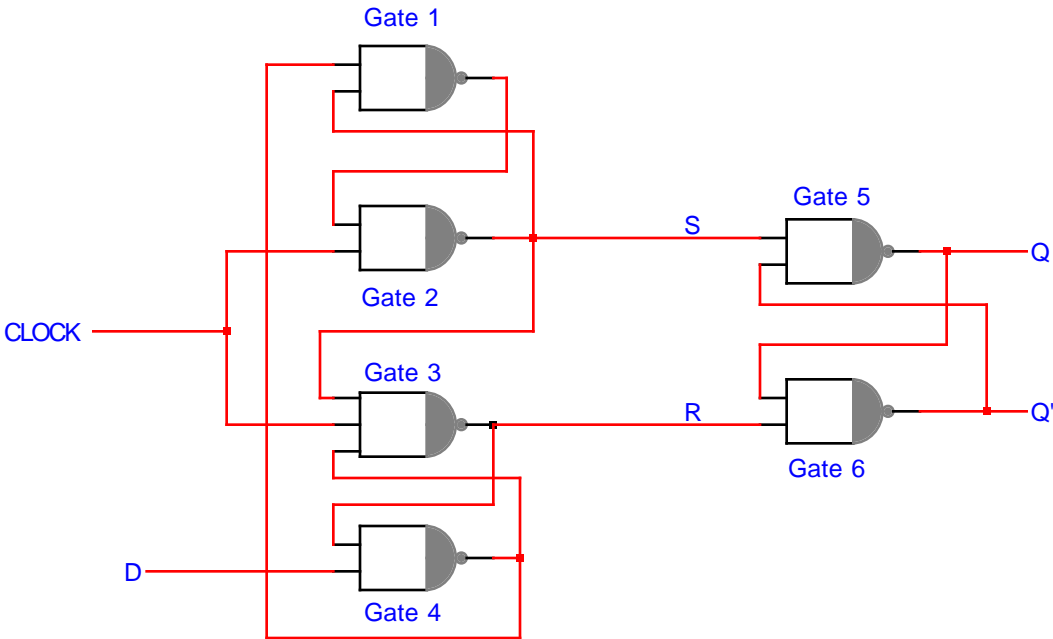

Figure 4 D-type positive-edge-triggered flip-flop
- Based on the circuit in Figure 4, calculate the setup and hold delays, in terms of gate delays, required for proper functioning of the flip-flop. Using the datasheets available on the web, estimate the minimum setup and hold time delays based on the gate delay specifications. Show your calculations and fully justify your answer.
A very common flop-flop in digital systems is the edge-triggered D flip-flop. Set up the circuit of Figure 4. Explain how the circuit operates and why it is "edge-triggered".
- The *setup time* is defined as the time interval during which the data must be stable prior to the active clock transition. The *hold time* is defined as the interval during which a signal must be maintained after the active transition of the clock. From Figure 4, explain the setup and hold times in terms of propagation delays of the gates.